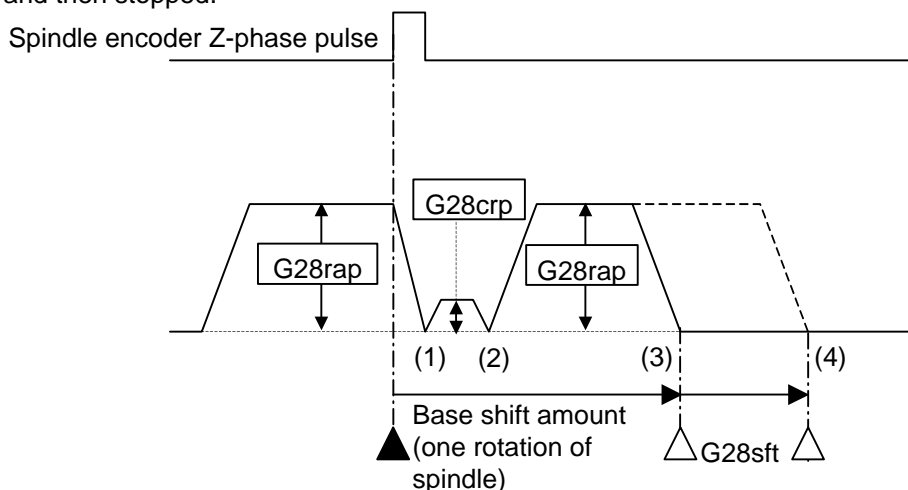

Figure 1 Z-phase pulse type reference position return
(2) Z-phase pulse type reference position return
When there is the reference position return command, the spindle is rotated until the Z-phase pulse of the spindle encoder is detected, and then stopped. (Figure 1 (1))
Next, in order to catch the change of the pulse position and improve the accuracy of the remaining distance, the spindle is rotated with G28crp (approach speed) and then stopped again. (Figure 1 (2))
For the spindle, one rotation to the point where the Z-pulse is detected is made with G28rap (G28 rapid traverse rate). (Figure 1 (3)) This point is applied to the reference position. If the reference position shift amount is included, the spindle is rotated to the point of the figure 1 (4) and then stopped.